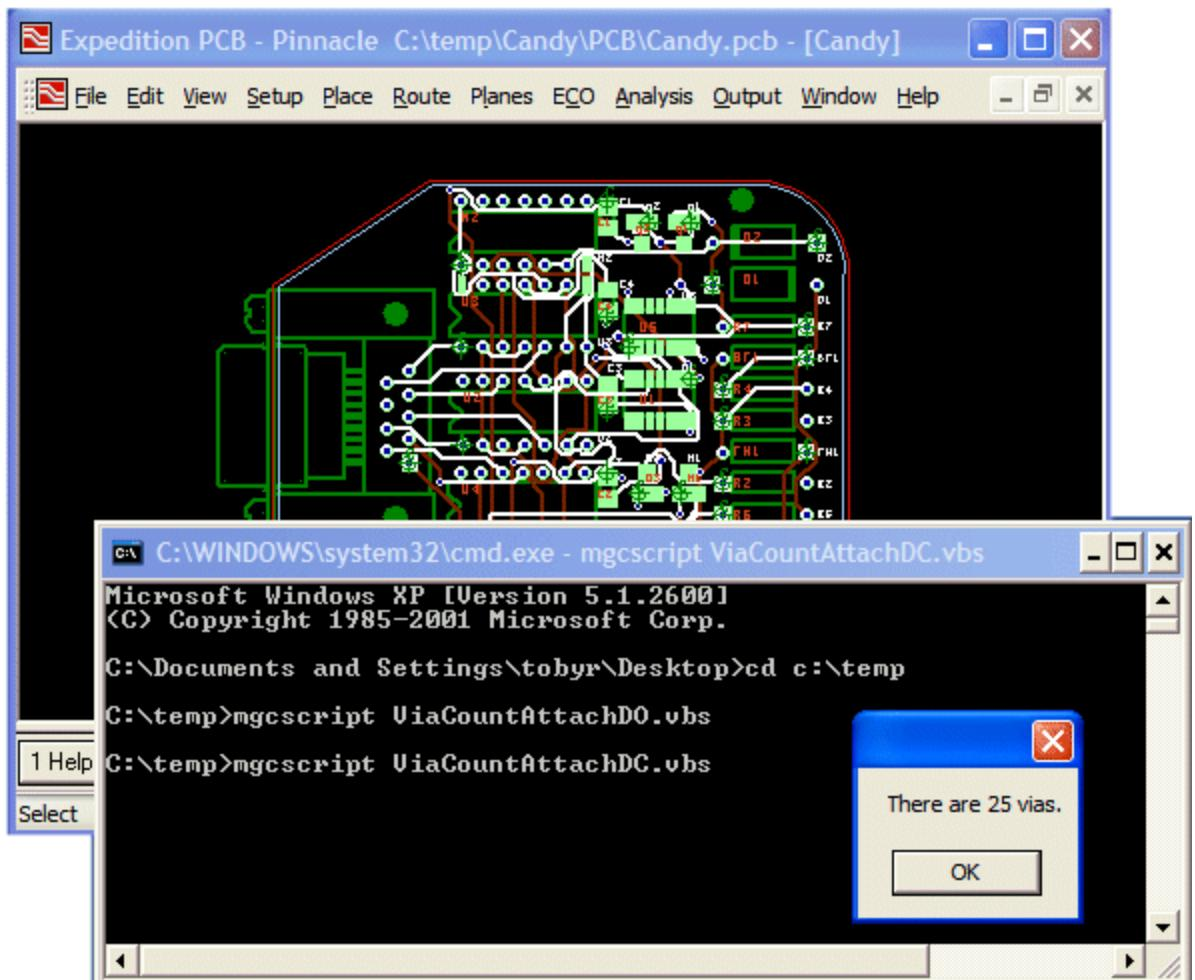

Figure 8-27. Attaching to a running application and opening a document.
- 4) Press the <Enter> key to run the script. Observe that the script opens the *Candy.pcb* layout document and counts the vias as illustrated in Figure 8-27.